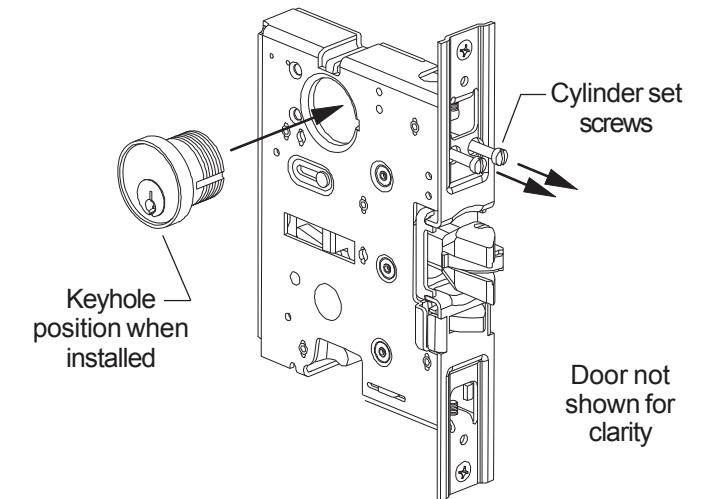

Figure 3
9. Install 1/4-28 hex studs in door (Figure 3).
10. Attach device cases to 1/4-28 hex studs using #12-24 machine screws (Figure 3).
12. Measure dimension "X" (Figure 3) and cut crossbar tube to dimension "X." Cut end without hole.
6. If using outside cylinder (Figure 3):